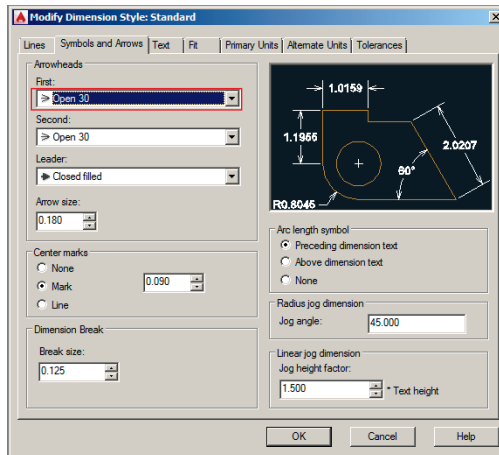

FIGURE 11.5 Changing arrowheads in the Standard dimension style
- Select the Symbols And Arrows tab. In the Arrowheads section, choose Open 30 from the First drop-down (see Figure 11.5). The Second drop-down automatically matches the first by default, so it now says Open 30 as well.